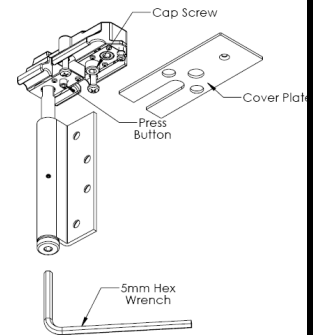

Figure A1:
- To shift the top of the panels horizontally, remove the cover plate, then loosen the Cap Screw in the Top Pivot housing using the 5mm Wrench. Using the same 5mm wrench, turn the adjustment Cam (recessed in the housing next to the cap screw) clockwise/counterclockwise depending on desired direction. Once the panel is in the desired location, tighten the Cap Screw to lock the horizontal Pivot location (Figure A1).